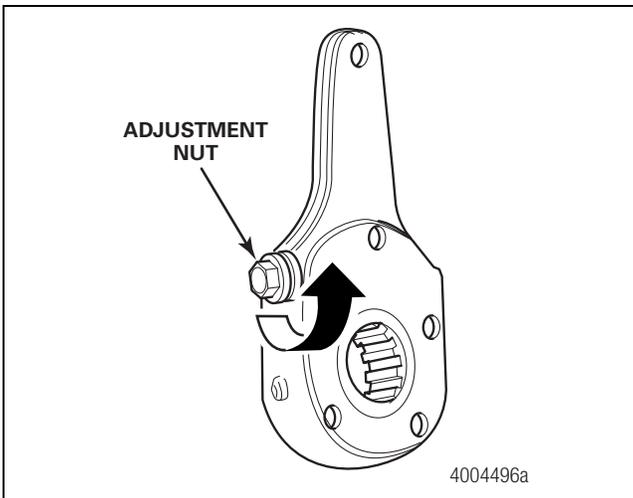

Figure 4.3
4. Check manual slack adjusters by rotating the adjustment nut of the worm shaft to verify that the worm drive is free. Figure 4.3. Replace the slack adjuster if the worm drive does not operate correctly. Do NOT repair a manual slack adjuster.